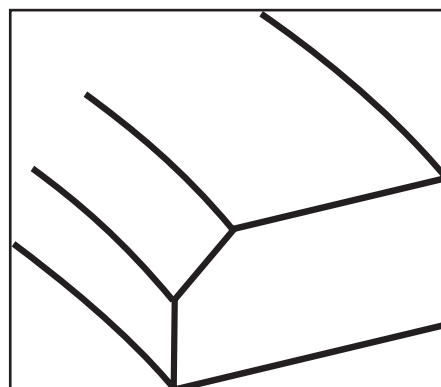

Figure 2
- If ring has no dot but does have inside diameter bevel, bevel goes to top of piston. **See Figure 2, below.**